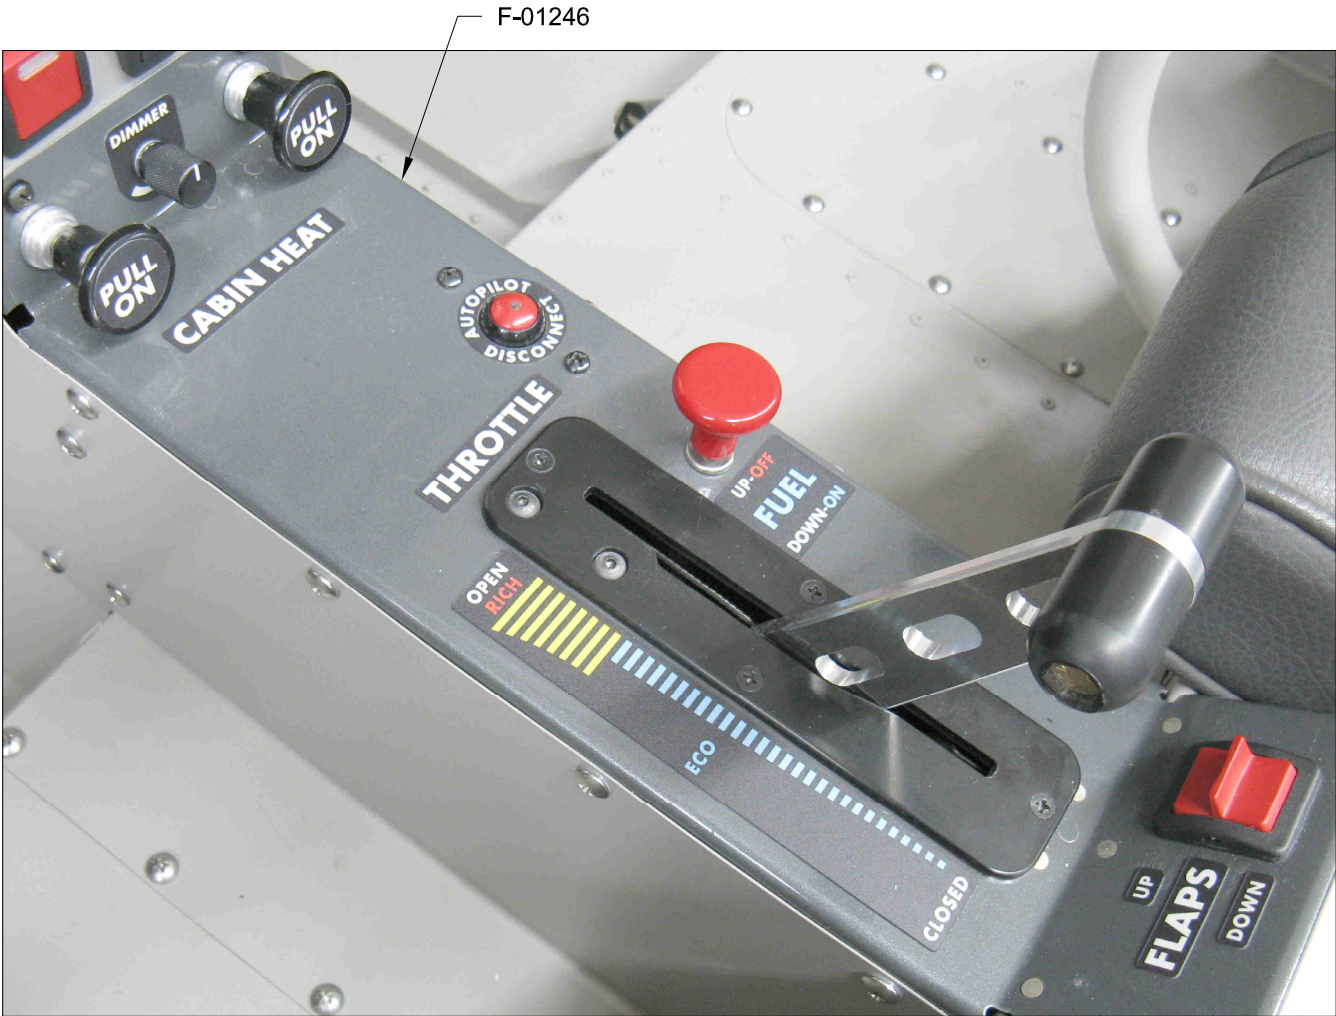

FIGURE 1: TUNNEL COVER LABEL PLACEMENT
Step 1: Install the F-01200D Interior Label Sheet labels on the F-01246 Tunnel Cover and F-12101 Flap Cover. See Figures 1 and 2.